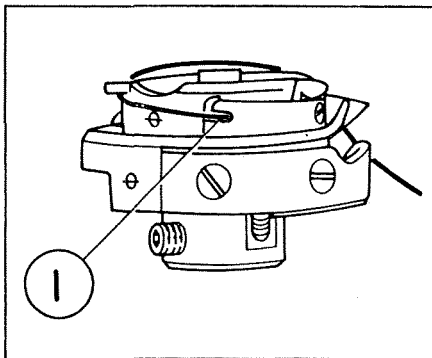

Fig. 10
When you pull out the bobbin thread through the bobbin case holder, verify that the thread is passed through the notched part ① thereof without fail, as shown in Fig.10.